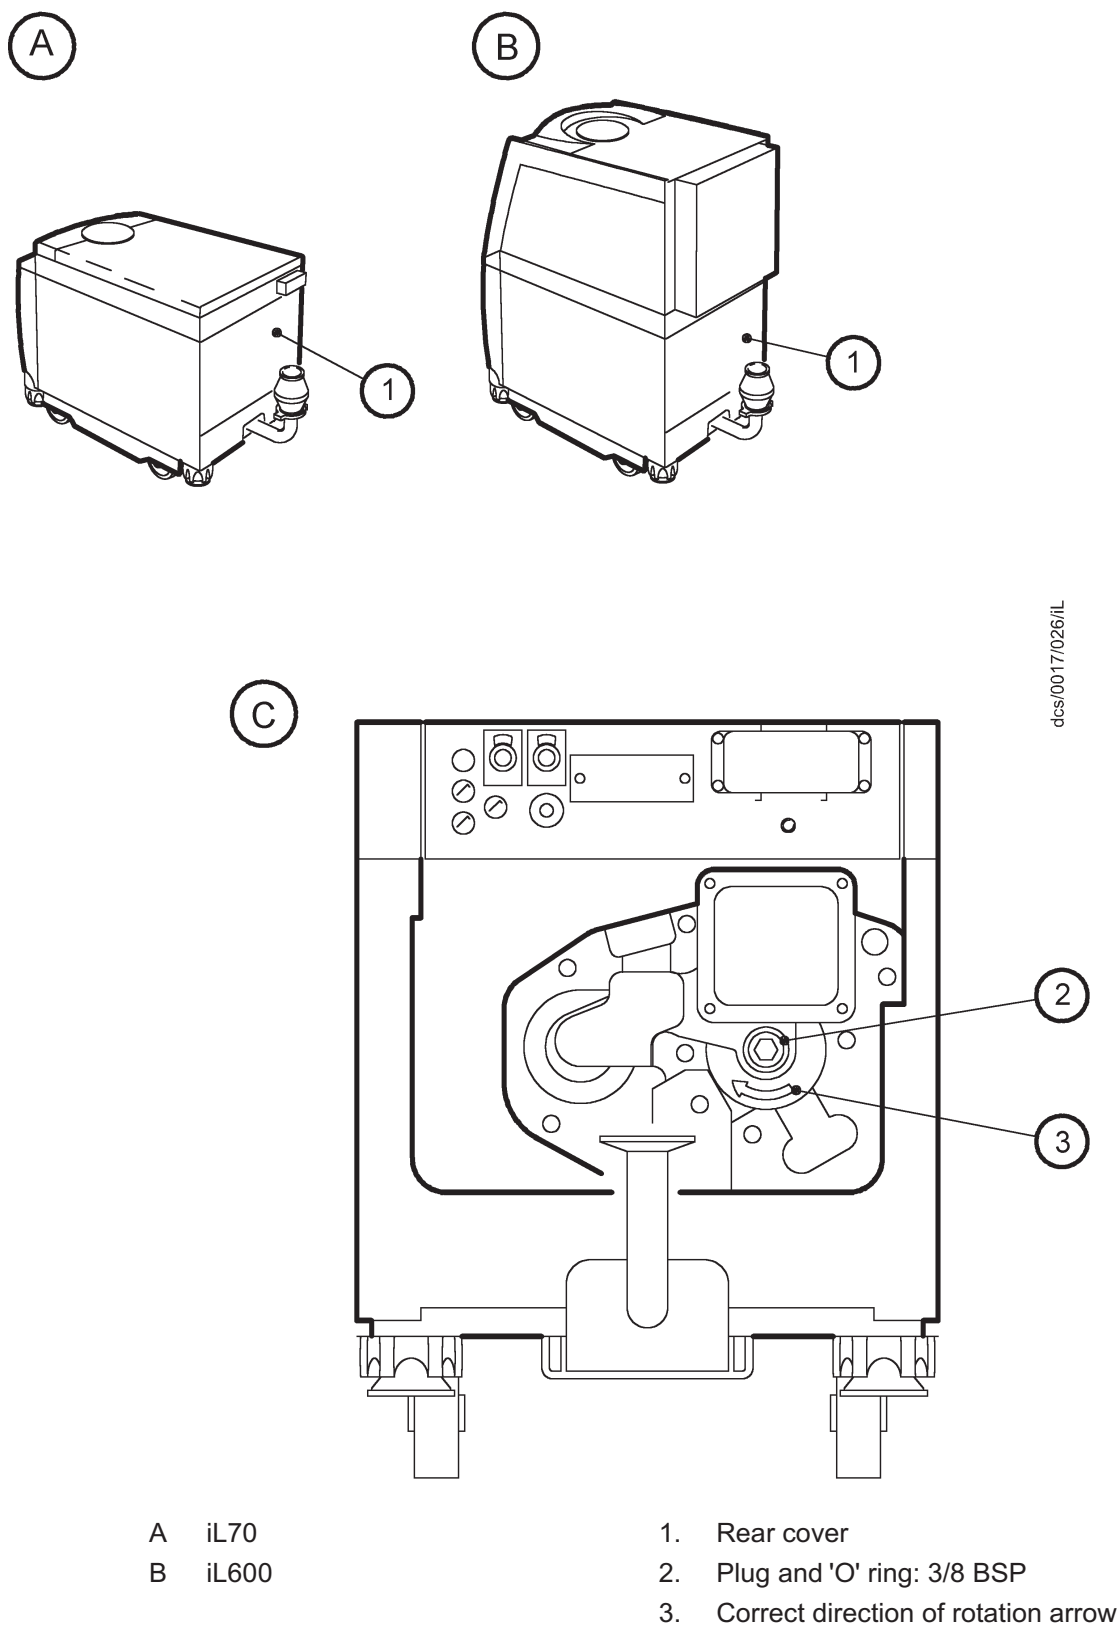

Figure 6-4 - Try to turn the LCDP pump
2. Refer to 1-4. Undo and remove the four screws which secure the rear cover (1), then remove the cover.
3. Refer to Figure 6-4. Use a 100mm A/F hexagonal key to remove the 3/8 BSP plug and 'O' ring (2) from the motor shaft.